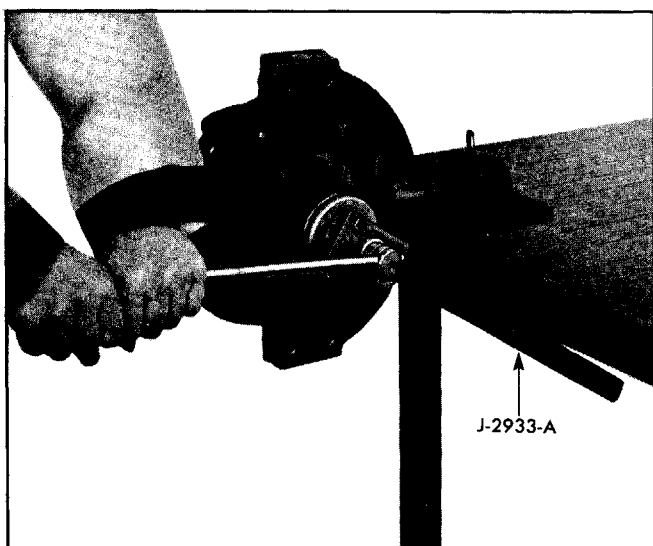

Fig. 4-29 Holding Companion Flange
5. Remove drive pinion nut and washer using heavy duty socket and Holding Tool J-2933-A (Fig. 4-29).